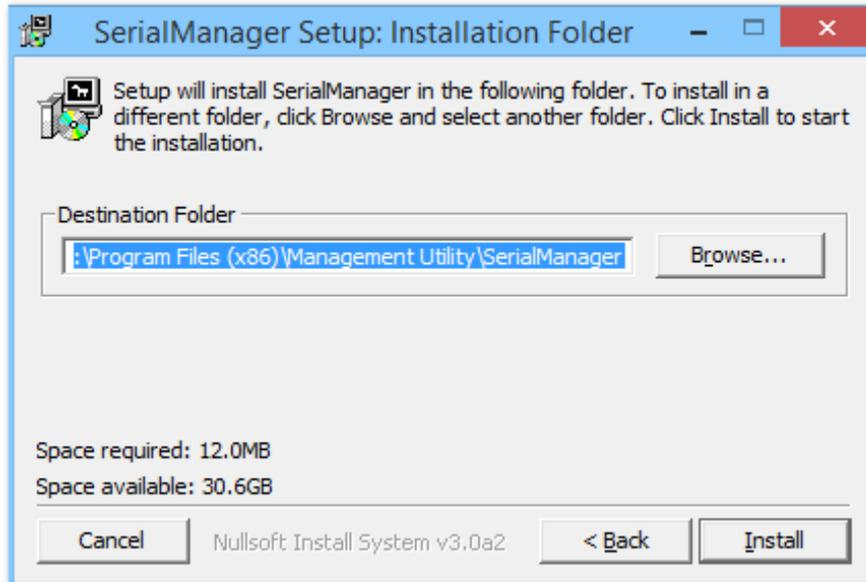

Figure 3.3
- ◆ Once you have clicked the 'Apply' and 'OK' buttons, double click the setup file to install the serial manager program. A pop-up window will then appear as follow in *Figure 3.3*.